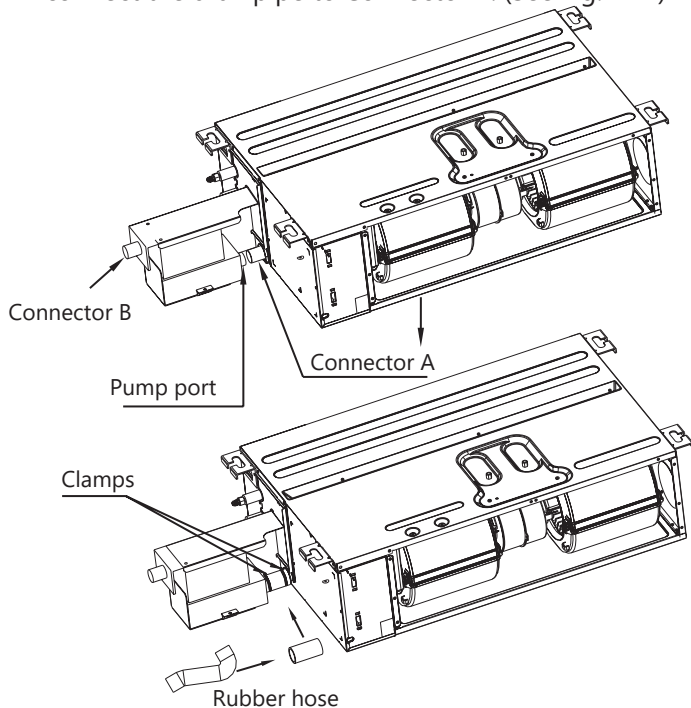

Fig. AI-2: Connect The Drain And Pump
1. Cut both ends of the rubber hose into a straight one, use it to connect the drain Connector A and the external pump, and secure it with clamps on both ends. Then connect the drainpipe to Connector B. (See Fig. AI-2)